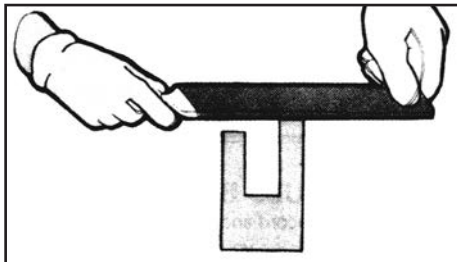

Fig. 24
3. If one rail is higher than the other one, it is necessary to make it even with a flat file and then smooth them with a file or fine grain abrasive paper. (Fig.24)